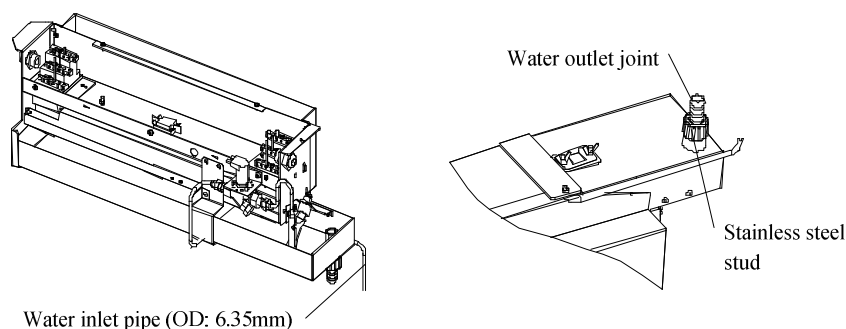

Figure 3-10 Water inlet pipe of infrared humidifier
2. Make sure that the connection of the water inlet pipe is well sealed to prevent leakage. The infrared humidifier reserves a copper pipe (OD: 6.35mm), as shown in Figure 3-10. There is a 1/4" copper nut at the end of the copper pipe, and the 1/4" × 1/2" conversion copper thread connector has been connected to the copper nut to avoid losing them. You can also select other connection methods.